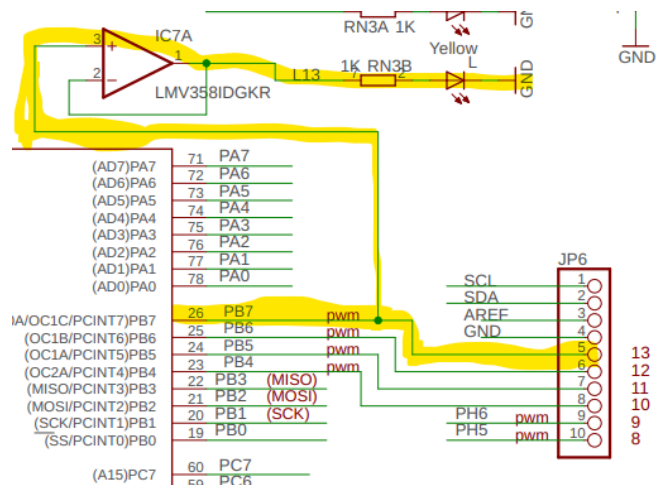

Figure 1: Schematic of onboard LED from the Arduino schematic. IC7, the Op Amp, is acting as a buffer, so the microcontroller does not have to drive the LED.
1. If you look up the schematic for the Arduino Mega [1](Figure 1). You can see there is an LED on the board that is connected to Pin 13.
We need to be careful when we read the Arduino pin numbers off the schematic since the same pin will have multiple numbers. Looking at Figure 1 We see the highlighted wire is labeled 3, 5, 13, and 26. The 26 refers to the pin for the Atmega chip itself and will match the Atmel datasheet. The 3 refers to the Op Amp pin that the digital pin is connected to. The 5 is the numbering on that individual header, so each grouping of 10 pins will be numbered 1-10. The red numbering to the side of each IO header on the drawing corresponds to the labels on the headers themselves.